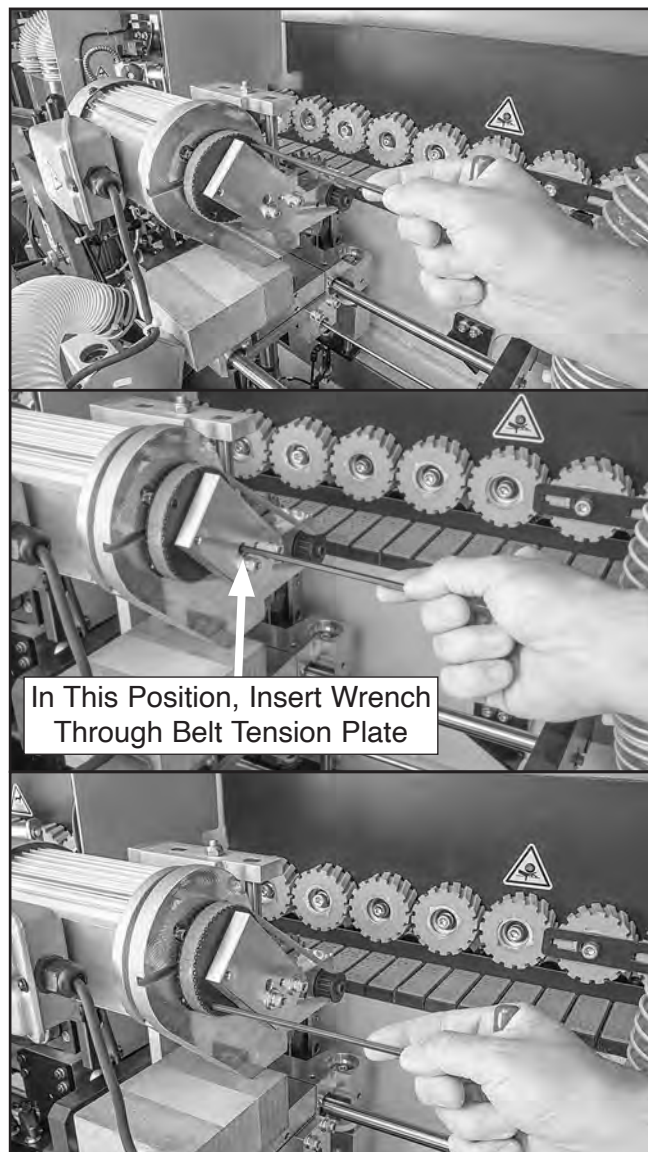

Figure 110. Loosening remaining end trimmer motor mount cap screws.
8. Insert T-handle hex wrench into access hole, as shown in **Figure 110**, and loosen—but do not remove—motor mount cap screw.
9. Repeat **Steps 7–8** with remaining motor mount cap screws (see **Figure 110**).